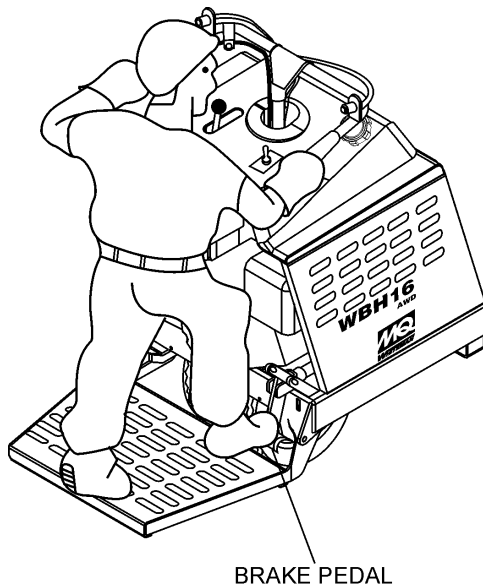

Figure 22. Brake Pedal
3. When using the buggy for the first time, test the brake. With the right foot, step up and place it on the brake pedal (Figure 22). Gradually apply pressure to the brake pedal until the buggy comes to rest.